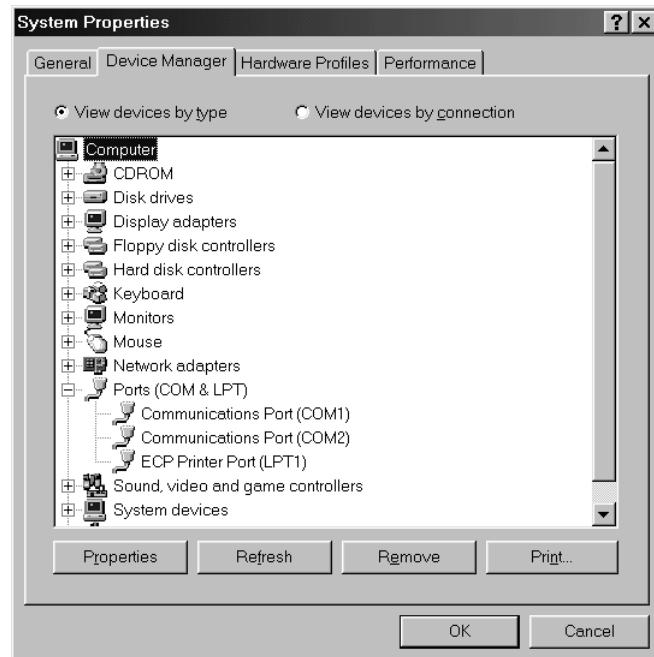

Figure C-5: Device Manager tab of System Properties dialog box
- 5 From the Ports list, select the port, such as COM1 or COM2 (Figure C-5).